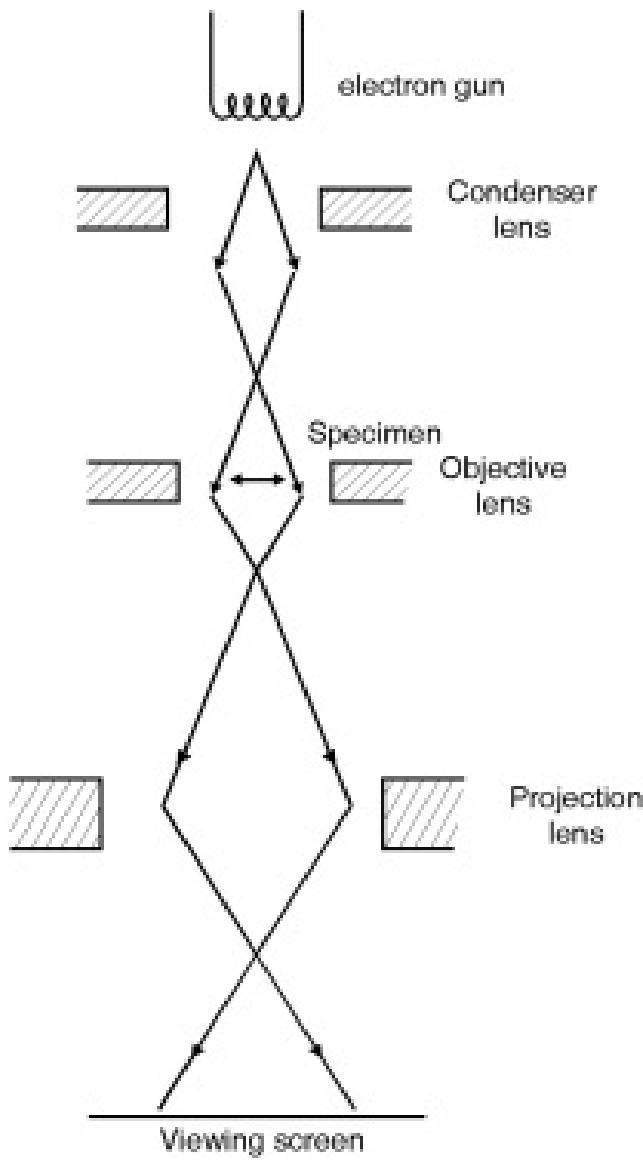

Fig. 8.3.1
- Fig. 8.3.1 shows schematic diagram of TEM.